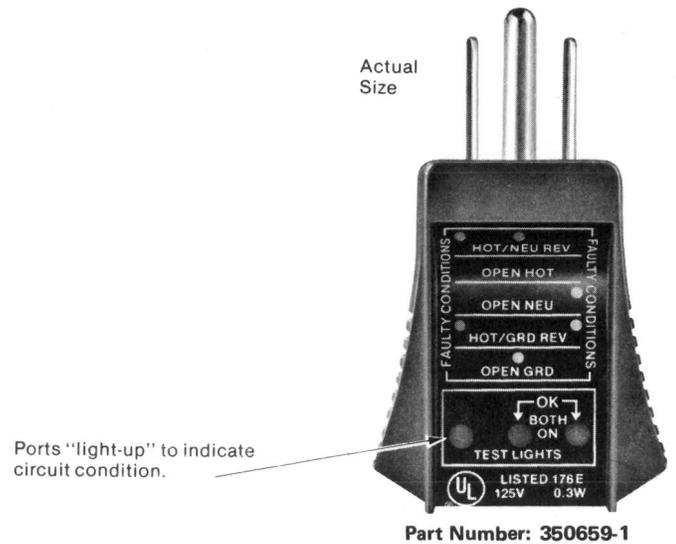

Fig. 6
4.01 The *AMP* Analyzer (Fig. 6) has indicator lights and a chart on both sides to describe the condition for each ac receptacle wiring arrangement. When plugged into any single phase 125 Vac 3-wire outlet, the following tests can be made: